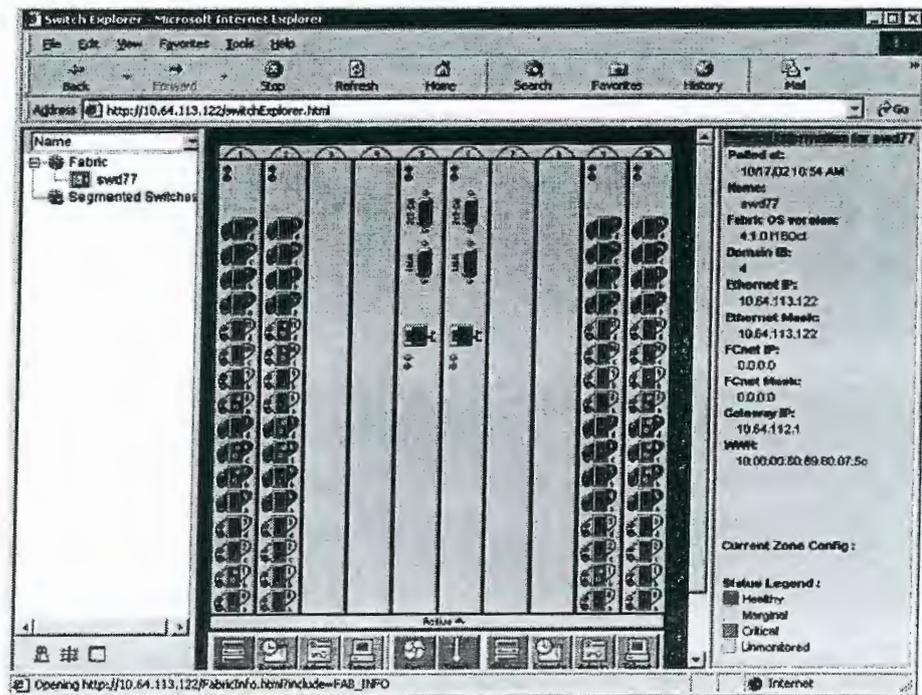
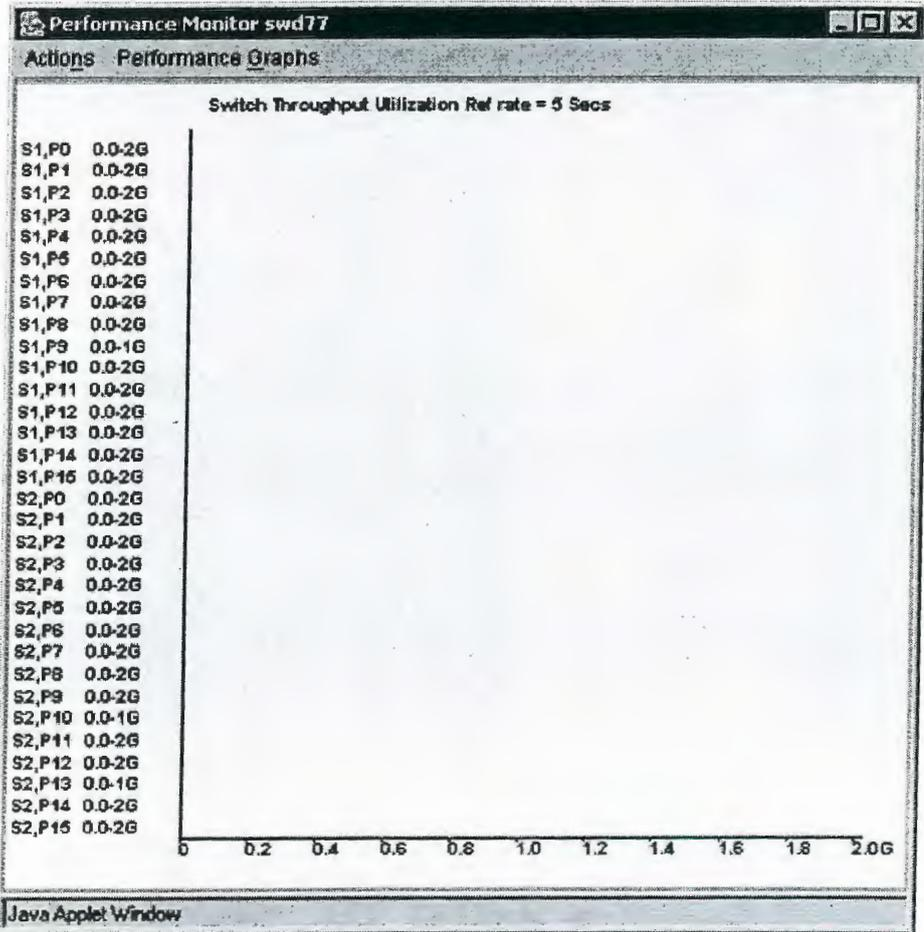

Figure 3-1 Switch View in Web Tools
Figure 3-2 Performance Monitor
2. Click the Switch icon of the switch you want to monitor, launching the Switch View, refer to Figure 3-1 on page 3-3.
3. Click on the Perf icon in the Switch View, launching the Performance Monitor window, refer to Figure 3-2 on page 3-4.
In addition to Figure 3-1, Figure 3-2, and Figure 3-3, the Performance Monitoring Resource Usage Display shown in Figure 3-6 shows which filter slots have been used for each port, and which are available. The color-coded interface makes troubleshooting easier.